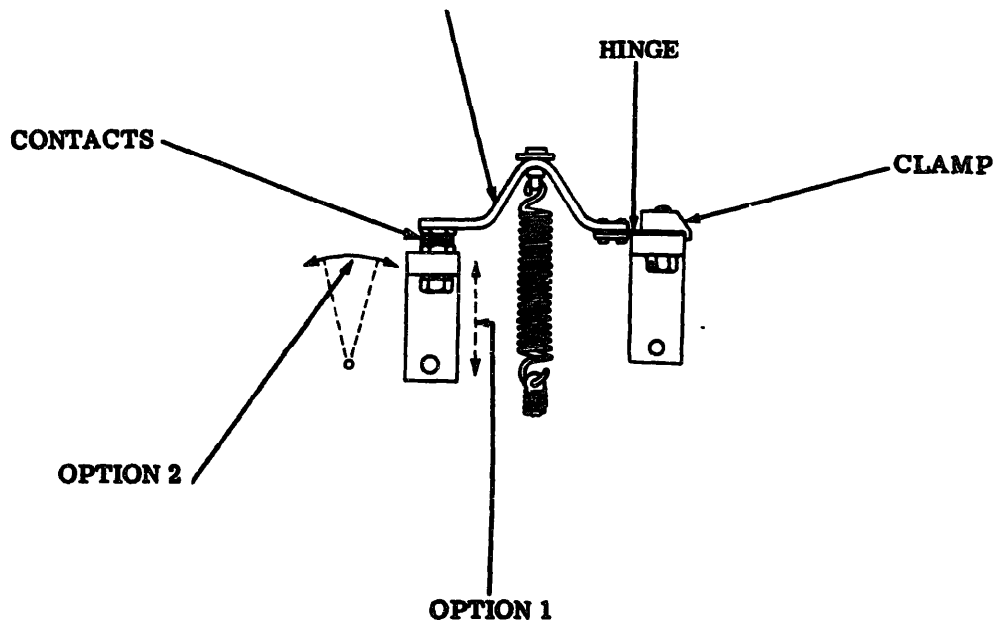
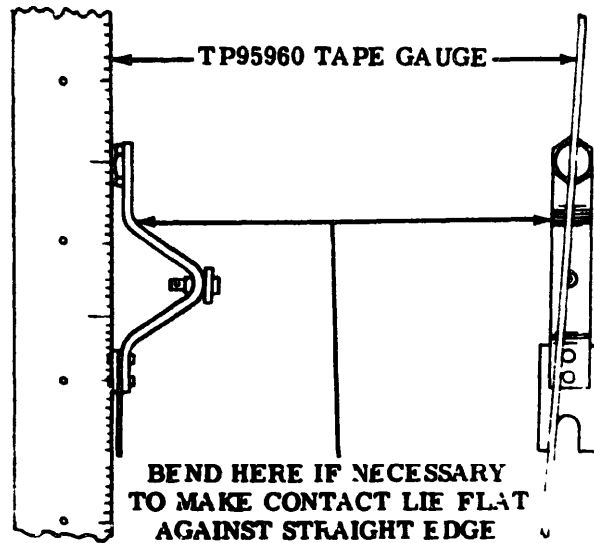

Figure 5- Governor Contacts
Figure 6- Tale Gauge
contact surfaces are deeply pitted or have buildups, no attempt shall be made to remove pits or buildups, but the contacts shall be replaced. See Figures 5, 7, and 16(A).
**To Adjust:** Bend the governor contact spring. See Figures 5, 7, and 16(A).
contact-block mounting screws, loosen the screws and move the block up or down as shown in Figure 5 until the contact faces are parallel. Tighten the mounting screws.
**Option 2:** Where the governor shell does not have elongated holes for the fixed-contact-block mounting screws, loosen the screws and move the block from side to side as shown in Figure 5 until the contact faces are parallel. Tighten the mounting screws. If the contact faces cannot be made parallel by either of the two options given above, remove the contact spring and check with the TP95960 tape gauge used as a straightedge as shown in Figure 6. When necessary, bend the contact spring at the first bend from the contact. (See Figures 5, 6, 7, and 16.)